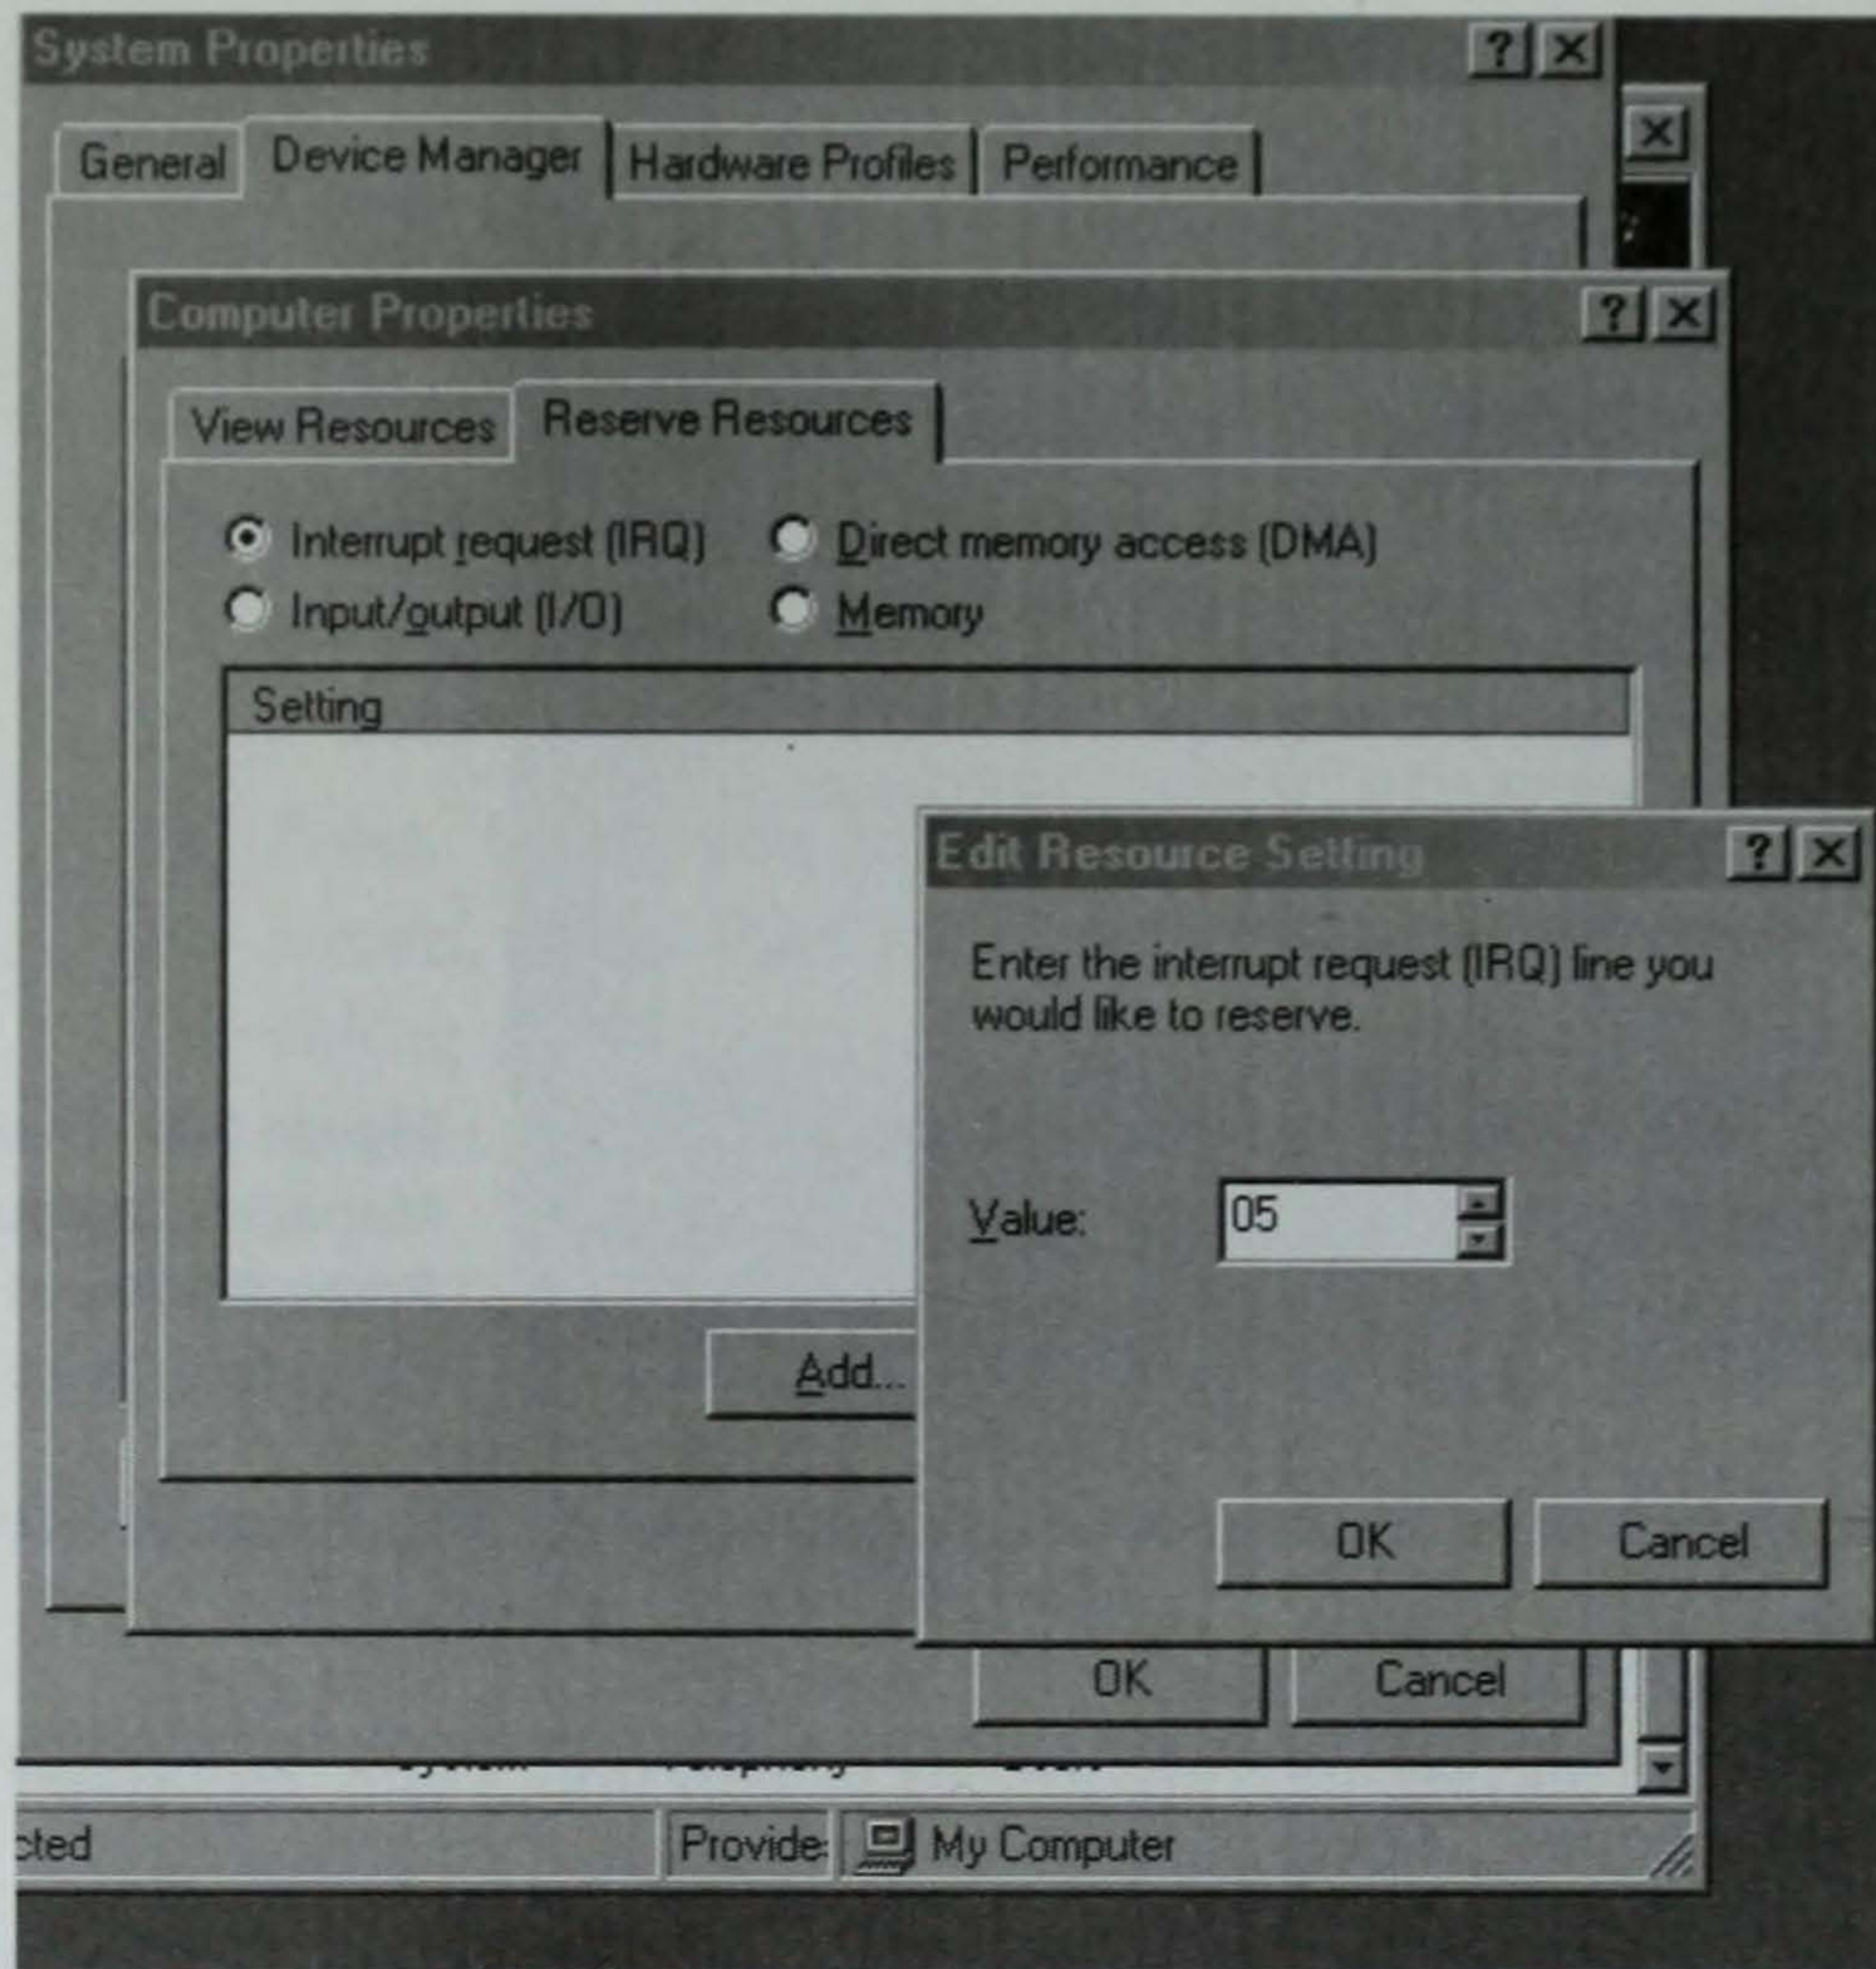

Figure 3.5 Device Manager/Computer/Reserve Resources/Add IRQ5.
5. Click on the Add button, then type in the value for the resource you are reserving; in this case, "5". See Figure 3.5.